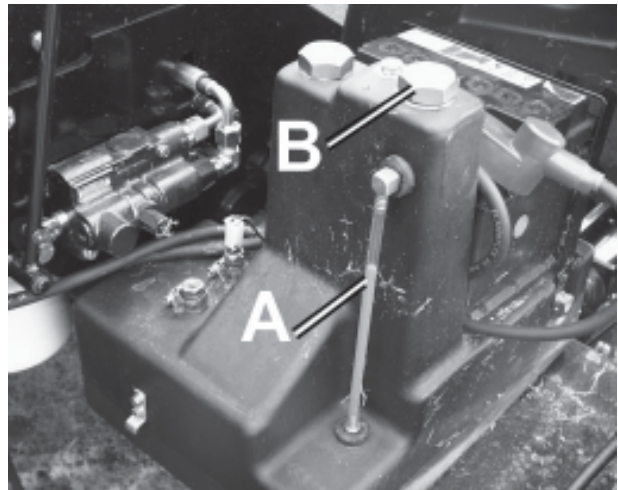

Fig.5
3. Refill tank with approx 38 litres of SAE 10W-30 Oil through one of the brass plugs. (B(Fig.5))
4. Hydraulic Oil should be filled to half way up the sight tube. (A(Fig.5)).